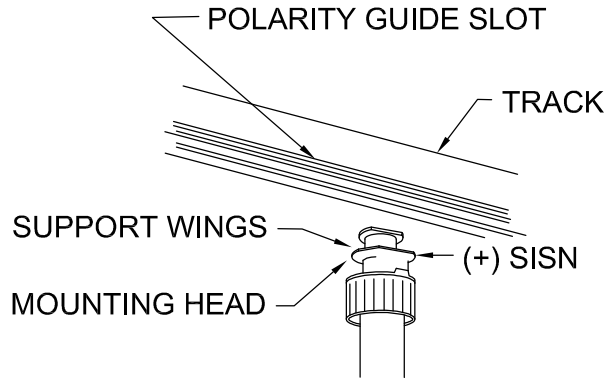

FIGURE 2
- 1- Note that one side of TRACK has a POLARITY GUIDE SLOT. Position MOUNTING HEAD with SUPPORT WIRES parallel to TRACK, with (+) SIGN on same side as SLOT in TRACK. (FIGURE 2)
- 2- Push MOUNTING HEAD firmly up into TRACK, and turn it 90° clockwise. (FIGURE 2)